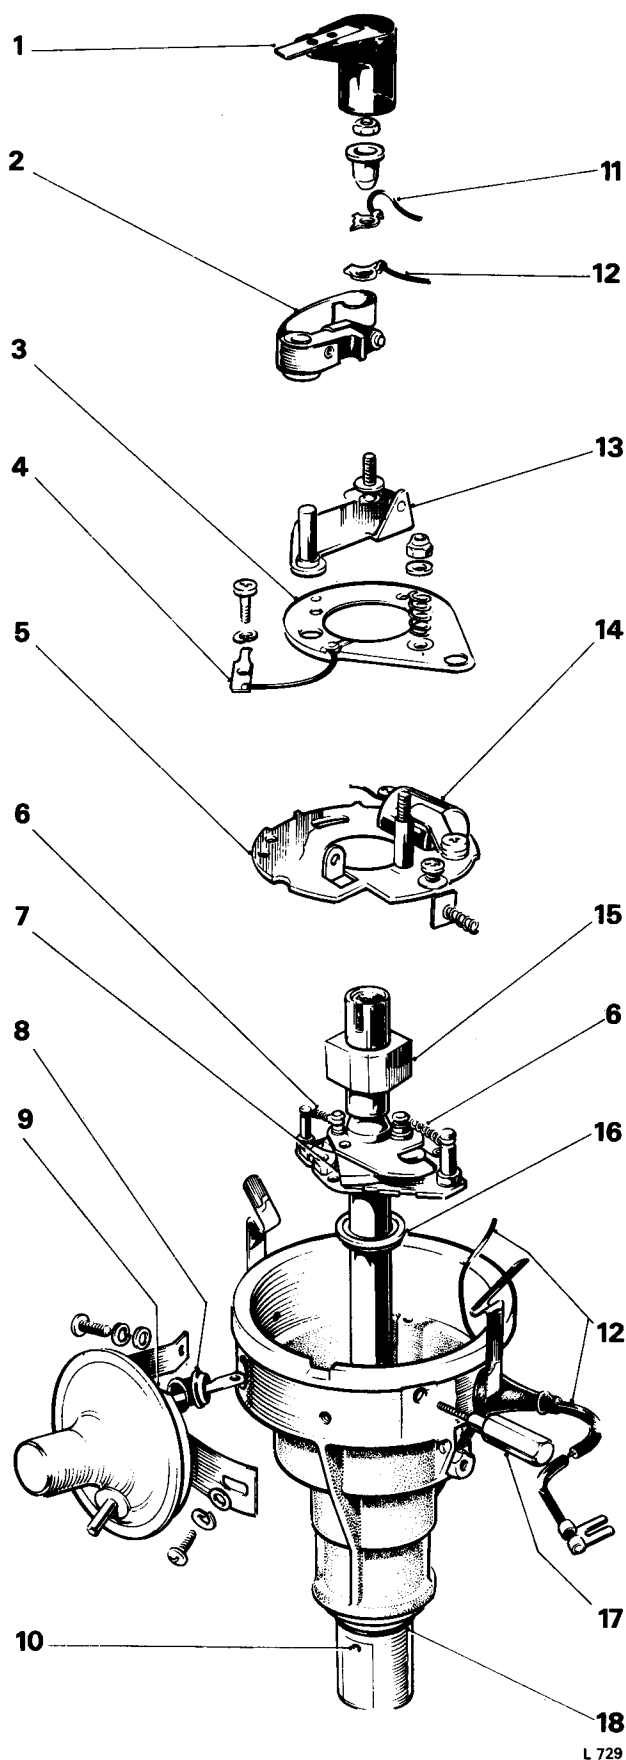

FIG. M9 EXPLODED VIEW 35 D8 DISTRIBUTOR
3. Adjust the dwell angle by turning the hexagonal adjustment screw (see Fig. M9).